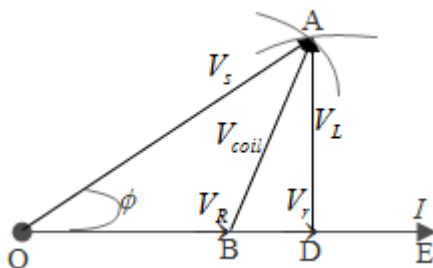

Fig. 2.4: Phasor Diagram of R – L series connected load
2. Draw the current (I) as reference phasor OE as shown in Fig. 2.4.